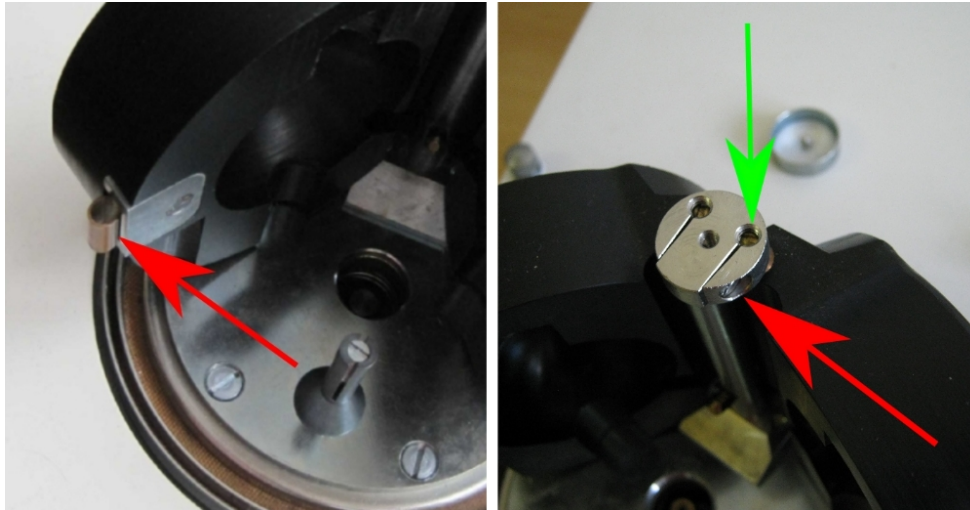

Figure 16: Adjustment of the measuring coils
1. Check if both sides of closed coils are firmly locked together by the bronze spring with the latch. If needed, manually adjust the proper tension of the bronze spring, marked by red arrow in Fig. 16, left.
3. Unscrew top cover from the column which holds the coils. Loose fixing screw marked by red arrow in Fig. 16, right. Then set proper stiffness of one side of coils using adjusting screw marked by green arrow.